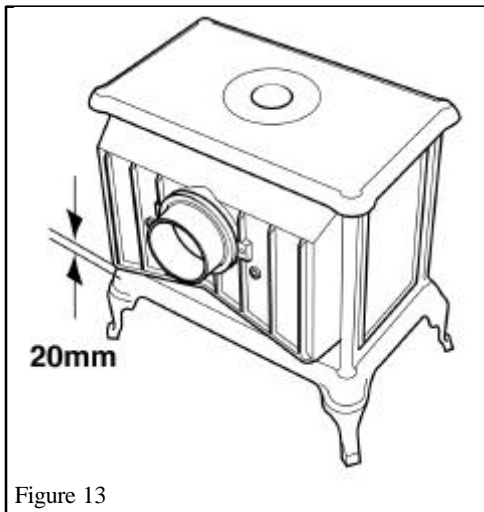

Figure 13
4. Hold a lighted smoke match, in a smoke match tube, centrally 20mm below the draught diverter outlet at the back of the stove. (See figure 13)